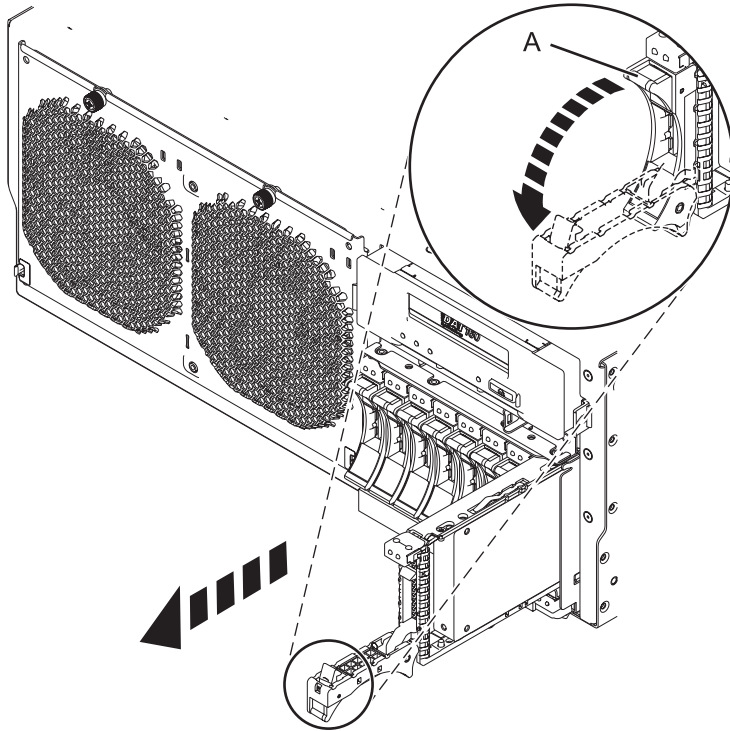

Figure 22. Removing the disk drive from the backplane
- 2) Place one hand under the disk drive and carefully pull the drive out of the system as shown in Figure 22 on page 47.